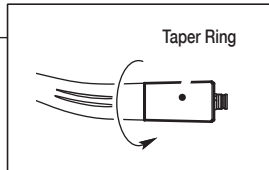

Fig. 45
- 1) Remove the handpiece from the coupling, loosen and remove the taper ring. (Fig. 45)